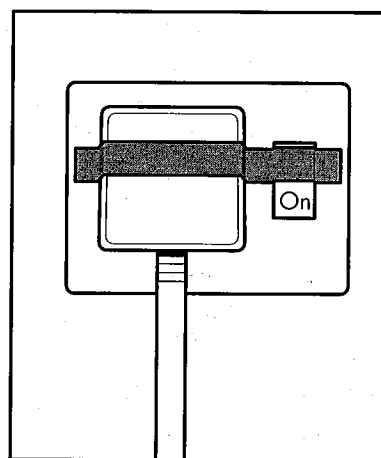

Figure 49: Tape over switch socket
- make sure a notice is displayed near the socket outlet which warns everyone (including cleaners) that the refrigerator is not to be switched off under any circumstances. A 'permanent connection' can prevent this from happening. If this is not available, a length of adhesive tape placed over the switch reminds people 'not to switch off' (see Figure 49)
- if a permanent connection is not in place, check that a warning notice saying 'Do not switch off' is in place; check that the switch is taped (Figure 49)
- iii. place adhesive tape over switch (Figure 49)